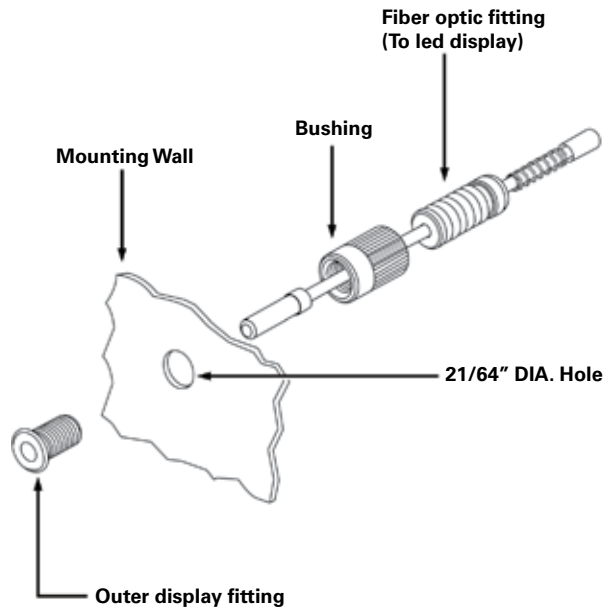

Figure 6. Remote fiber optic cable display installation diagram
- A. If fiber optic cable remote is to be used with the FCI, snap the fiber optic fitting onto the LED indicator display on the housing of the FCI, prior to attaching the FCI to the hotstick (see Figure 6).